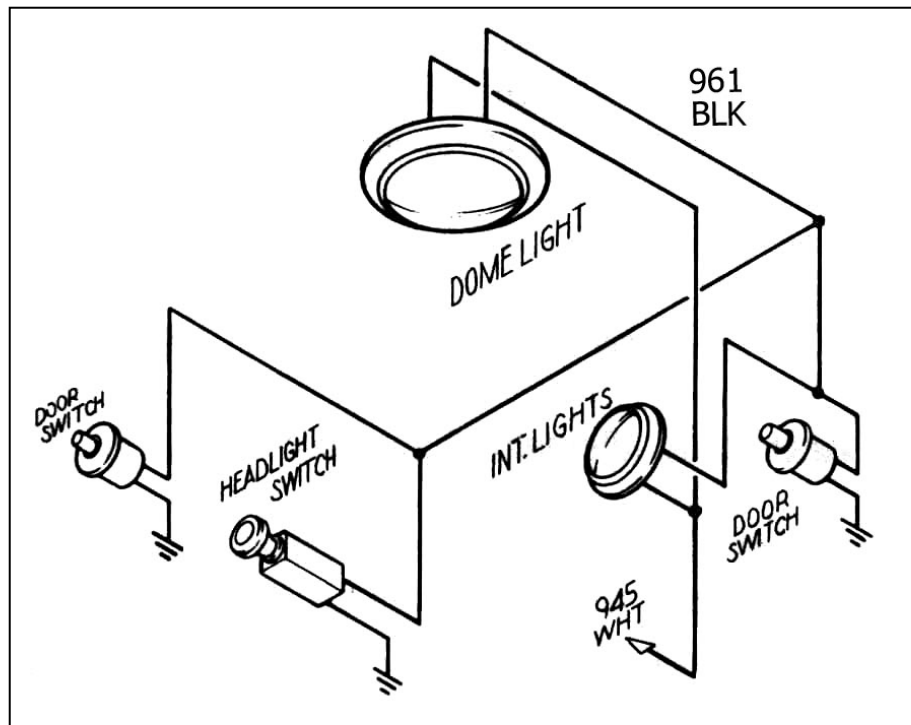

Figure 10-3 Interior Lighting (Door Jamb Switches – Painless Part #80170)
10.4 Interior Lighting. See Figure 10-3